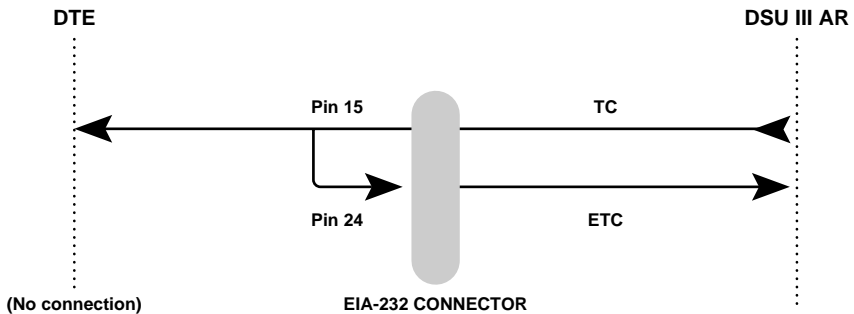

Figure E-1
The EIA-232 connector, shown in Figure E-1, may be used for 56 and 64 kbps applications. Using the External clock option and this cable should eliminate data errors caused by excessive delays in the DTE transmit clock receiver and transmit data driver. When creating this cable at the DTE interface EIA-232 connector, tie transmit clock lead (TC) to external transmit (ETC) as shown.